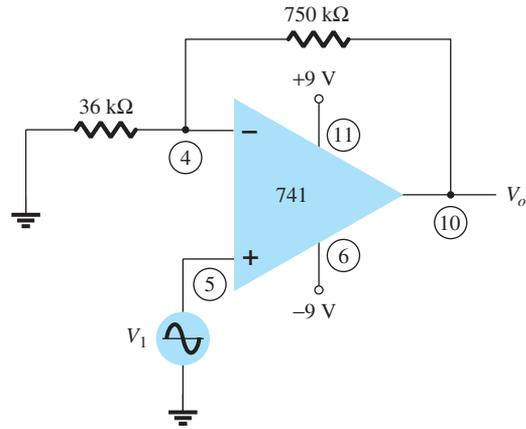

FIG. 11.48
2. Calculate the output voltage of the circuit of Fig. 11.48 for an input of 150 mV rms.